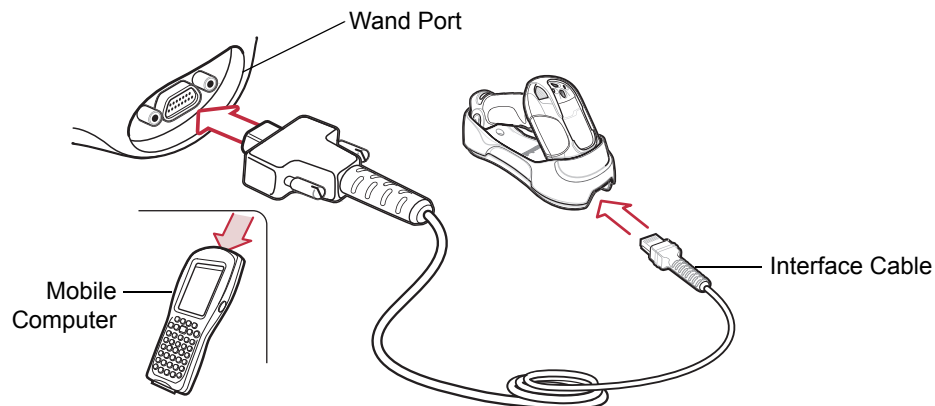

Figure 10-1 Wand Emulation Connection
- ✓ **NOTE** Interface cables vary depending on configuration. The connectors may be different from those illustrated in Figure 10-1, but the steps to connect the digital scanner cradle are the same.